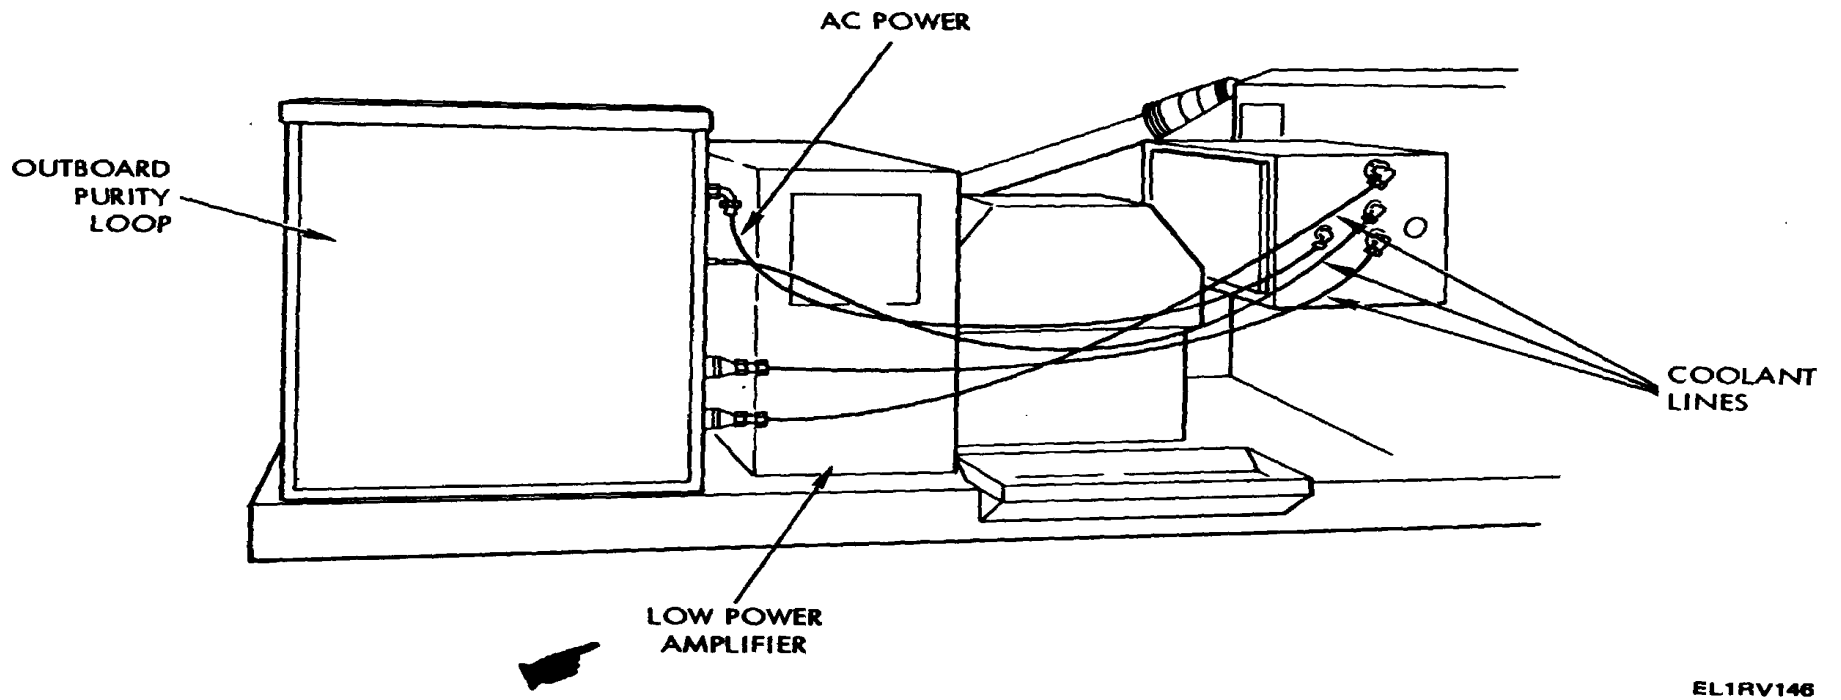

Figure 2-22. Purity loop filter (2A10) installation location.
- b. Locate the two mounting holes on the antenna platform (fig. 2-22).